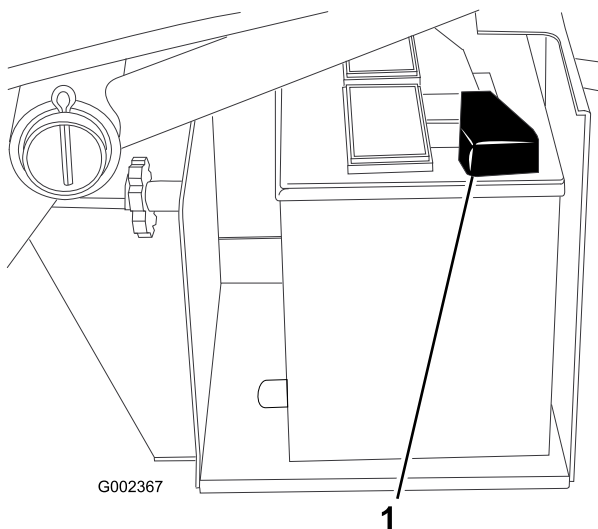

Figure 41
2. Connect a jumper cable between the positive posts of the two batteries (Figure 41). The positive post may be identified by a “+” sign on top of battery cover.